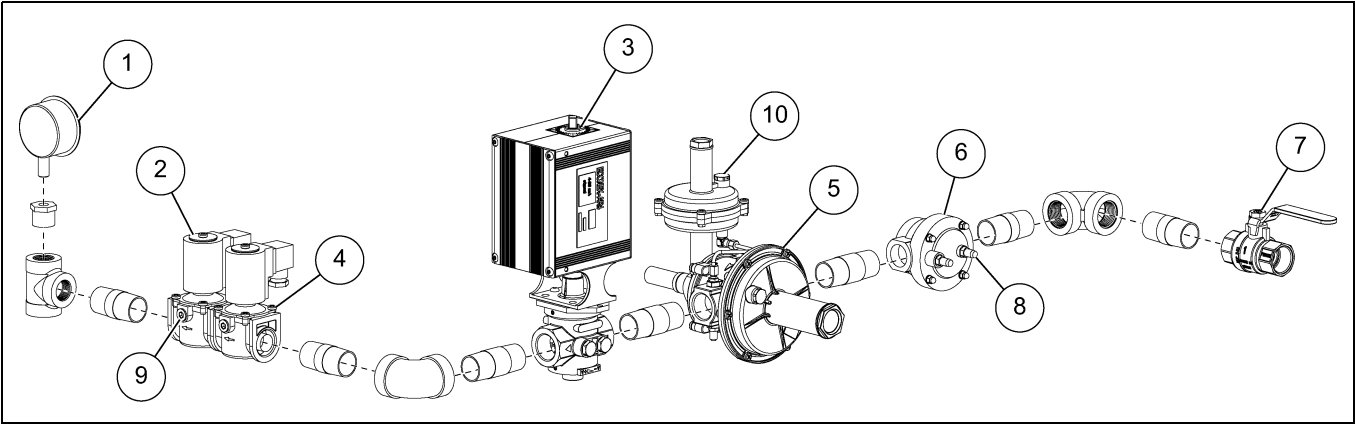

Figure 4N Fuel Train
1. Remove cover (1) from regulator adjuster.
3. Open pressure test point and fit manometer. (See Ref #9 in Figure 4N on Page 30.)
6. Re-fit adjuster cover and close test point. (See Ref #9 in Figure 4N on Page 30.)
3. Note the pressure on the pressure gauge. *(See Figure 4N on Page 30.)*